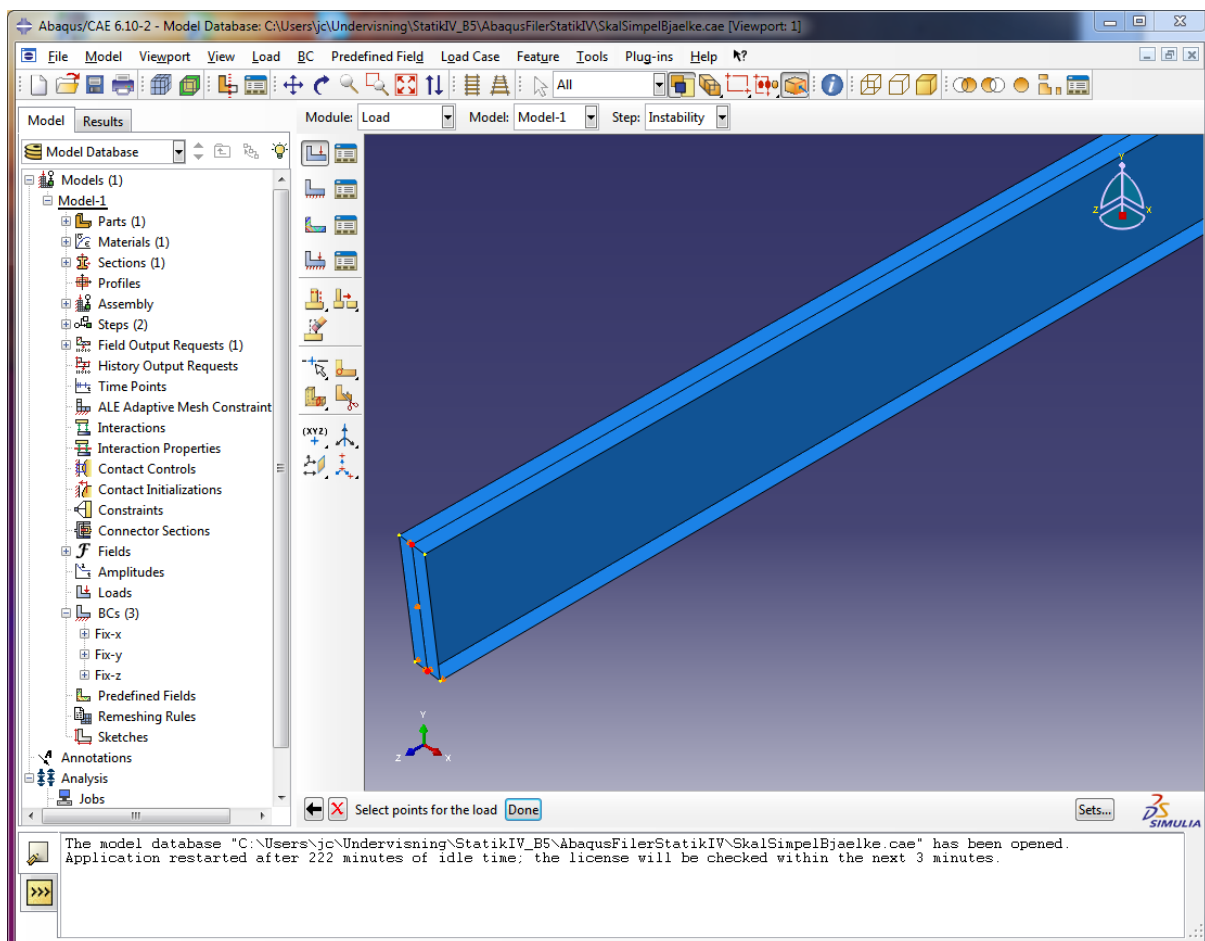

Figure 6 Points at which the moment is applied at one end of the beam.
- d. Select the mid-points at the bottom edge and the top edge at one end of the beam. Again, use Shift to mark more points at a time. When the visualization of the model looks like the illustration on Figure 6, click **Done** in the prompt area.
1. Try the **Plot Contours on Deformed Shape** tool. This will provide a plot as illustrated in Figure 6.